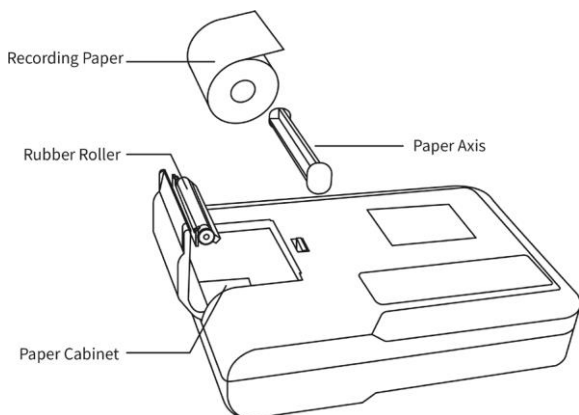

Figure 6-1 Installation of recording paper
1. As shown in Figure 6-1, open the paper cabinet cover, take out the paper axis, insert it into the roll paper as shown in the figure. The paper side with grids should be faced downwards, and then install it to proper position in the paper cabinet.